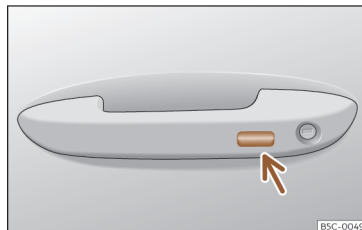

Fig. 95 Door handle: sensor surface.
- **OR** using the Keyless Access system (only locking): Press and hold the locking sensor surface  **Fig. 95** (arrow) on the door handle for several seconds to close the windows and the sunroof. If you release the sensor surface, the closing movement stops.
• Press and hold the locking sensor surface >>> **Fig. 95** (arrow) on the door handle to close the sunroof. If you release the sensor surface, the closing movement stops.